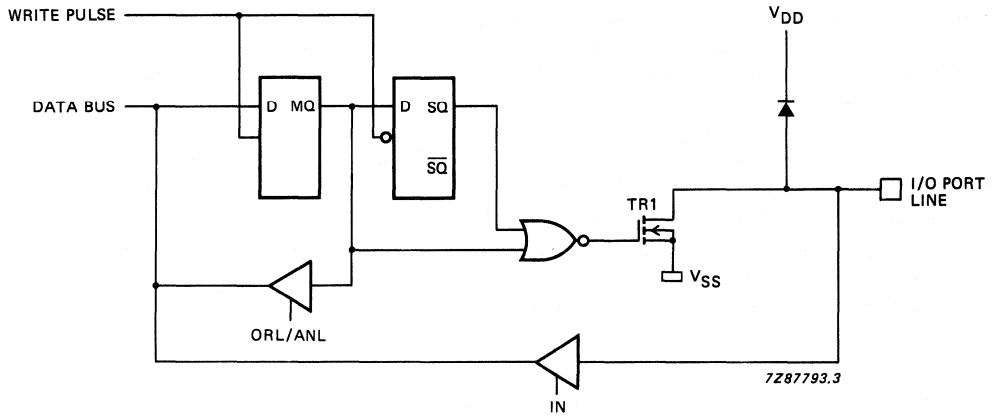

Fig. 12 Open drain output.
2. OPEN DRAIN: quasi-bidirectional I/O with only an N-channel open drain output. Application as an output requires connection of an external pull-up resistor (Fig. 12). When an open drain port is unused it must be connected to V_{SS} .